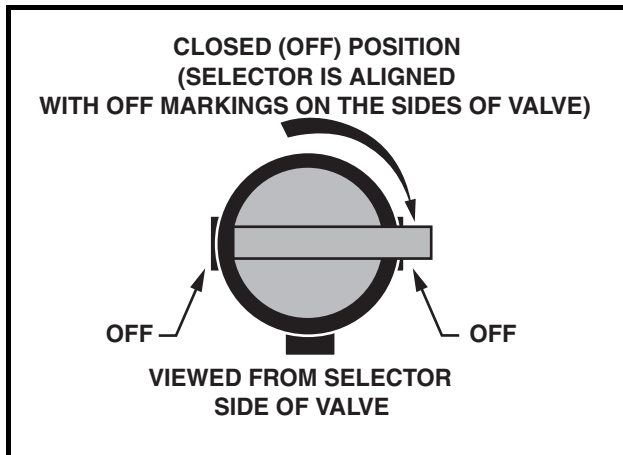

Figure 16 Fuel Shut-off Valve – Closed Position
- Gasoline vehicles only: Turn the fuel shut-off valve to the closed (OFF) position (Figure 16, Page 27).
- Turn the fuel shut-off valve to the closed (OFF) position (Figure 16).
- 2.1. Place the Forward/Reverse handle in the NEUTRAL position. Turn the fuel shut-off valve to the closed (OFF) position (**Figure 16, Page 27**) and run the engine until fuel remaining in the carburetor and fuel lines is depleted and the engine stalls.
- Turn the fuel shut-off valve to the closed (OFF) position (Figure 16, Page 27).